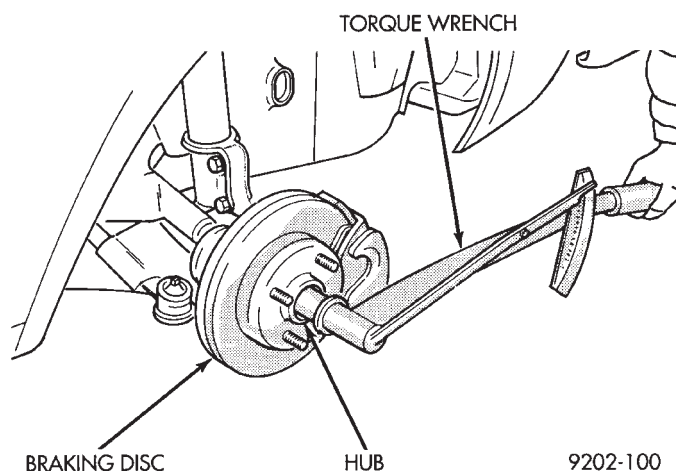

Fig. 76 Torquing Front Hub Nut
(13) With vehicle brakes applied to keep stub axle from turning, tighten hub nut to a torque of 203 N·m (150 ft. lbs.) of torque (Fig. 76).